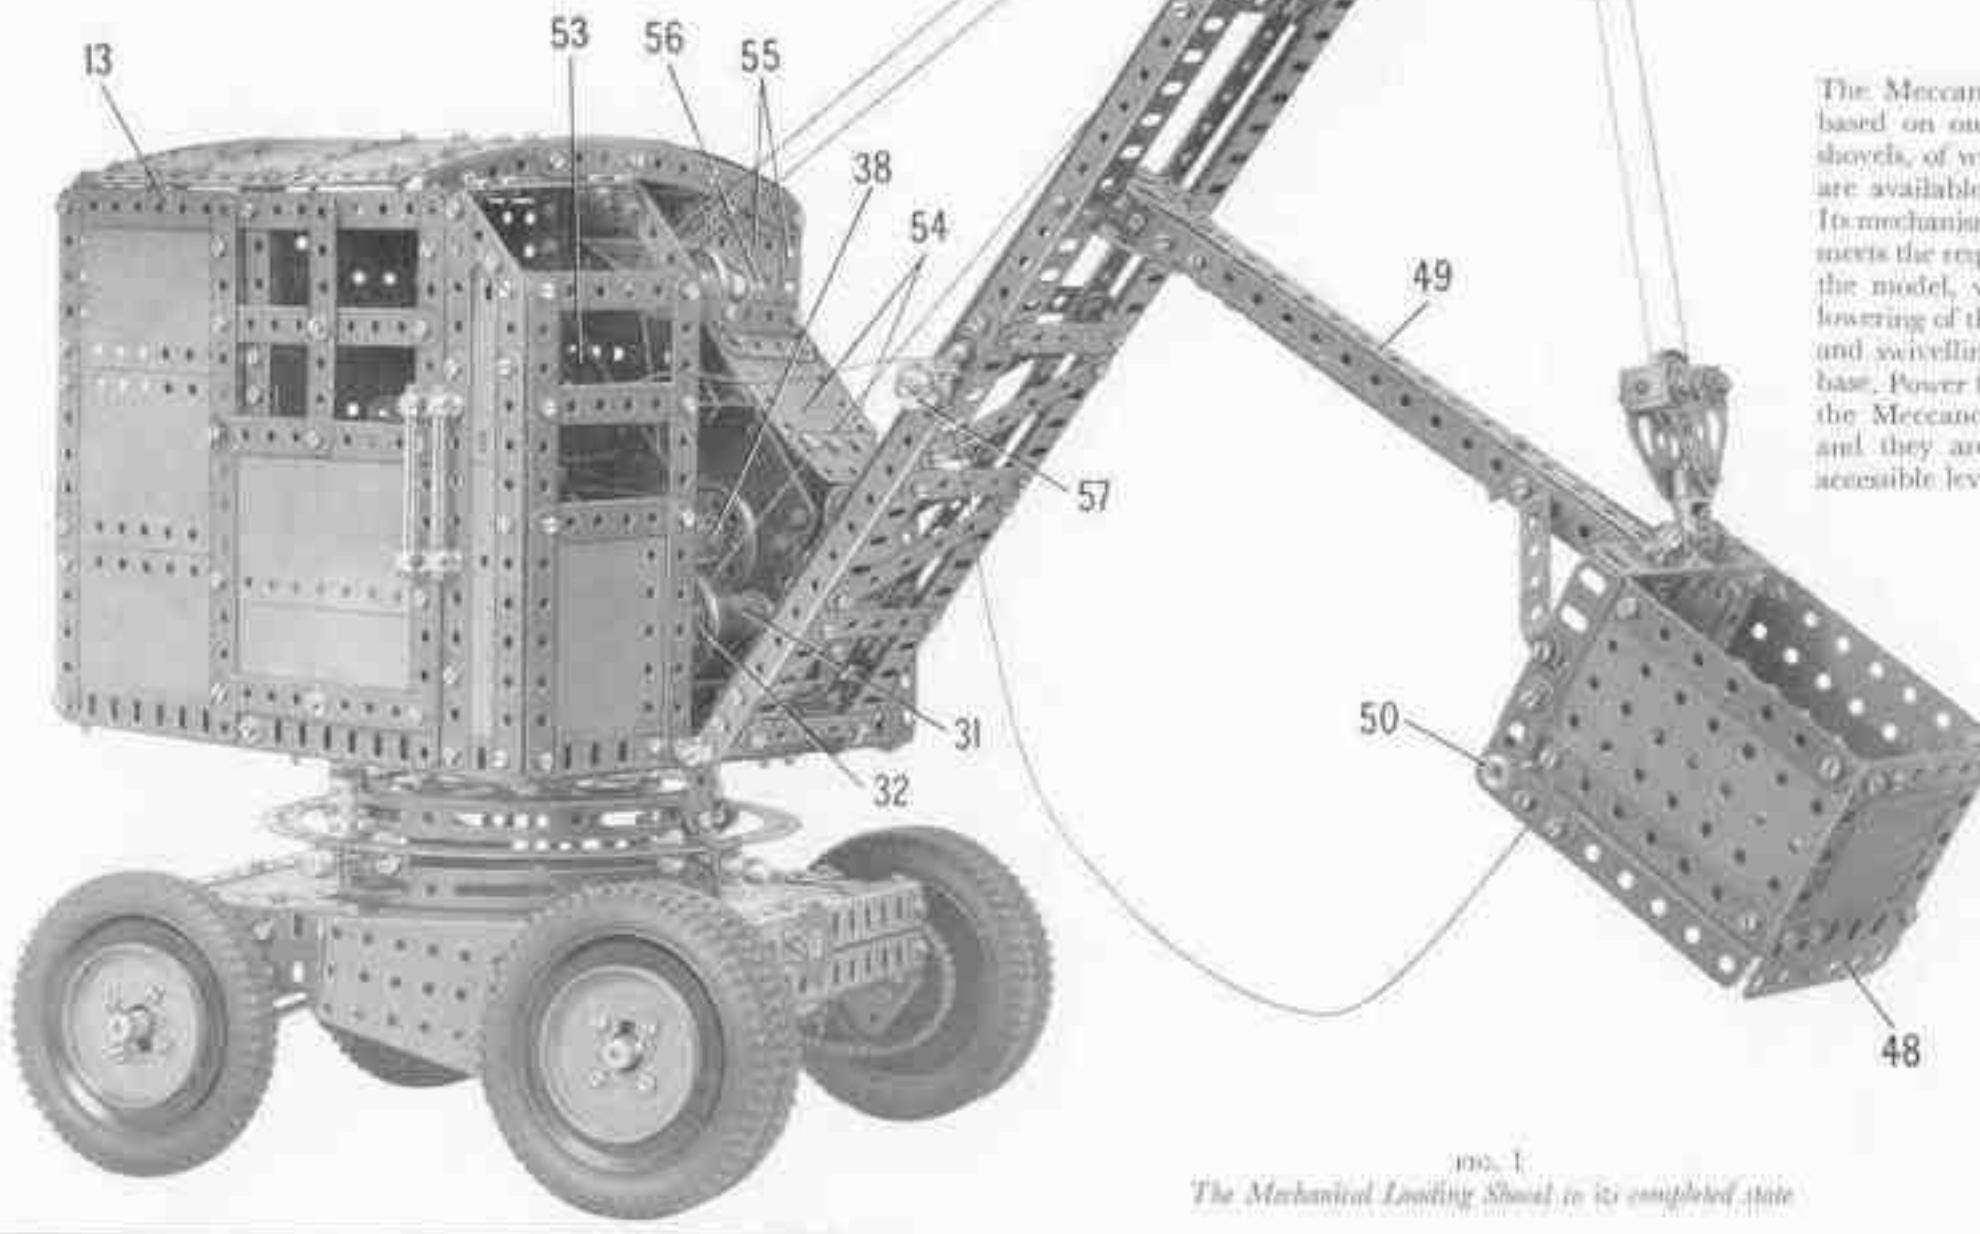

FIG. 1
#### The Cab: Floor and Sides (Figs. 1, 3 and 8)
The rear part of the side seen in Fig. 1 is filled in by three  $4\frac{1}{2}$ "  $\times 2\frac{1}{2}$ " Flexible Plates attached to two vertical  $7\frac{1}{2}$ " Strips by  $\frac{1}{2}$ " Bolts, but they are spaced from the Strips by a nut on each Bolt. The top edge of the upper Plate is strengthened by a strip (13), made from two  $9\frac{1}{2}$ " Strips overlapped five holes. The front part of this side consists of a  $5\frac{1}{2}$ "  $\times 1\frac{1}{2}$ " and a  $2\frac{1}{2}$ "  $\times 1\frac{1}{2}$ " Flexible Plate overlapped three holes and edged by Strips as shown.
#### The Bucket Arm and the Slewing Motion Drives (Figs. 1, 5 and 11)
The shaft that carries the bucket arm hoisting drum is a 5" Rod (30) (Fig. 11), mounted in the Flanged Plates (20) and (21). The drum (seen at 31 Fig. 1) is a Sleeve Piece pressed inside the teeth of a  $\frac{1}{2}$ " Contrace and fixed on the Rod between this Contrace and a 1 $\frac{1}{2}$ " Pulley (32). A length of Cord tied to the 7 $\frac{1}{2}$ " Angle Girder at the front of the cab is passed round the Pulley (32) and is fastened to a Driving Band. The Driving Band is stretched slightly and is placed over a 3 $\frac{1}{2}$ " Rod passed through holes in the lower edges of the Flanged Plate (21) and one of the Flanged Plates (20). This arrangement provides a constant braking effect on the winding drum shaft (30).
#### Drives to the Luffing and Travelling Movements (Figs. 1, 2, 4, 5, 6, 7 and 11)
The luffing drum, which is seen at (38) (Fig. 1), consists of a Sheave Piece fitted with a Chimney Adaptor at one end and connected at its other end to a 1 $\frac{1}{2}$ " Pulley by an Angle Bracket. The Pulley is fixed on a 5" Rod (39) (Fig. 11), and is provided with a Cord brake in the same way as the Pulley (32) (Fig. 1). Rod (39) carries a 50-tooth Gear that can be meshed with the Pinions on shafts (27) and (28), as already described in connection with the drive to Rod (30). The movement of Rod (39) is controlled by a lever (40) (Fig. 11), which is a 1" Rod in a Rod and Strip Connector that is bolted tightly to a 1 $\frac{1}{2}$ " Strip. The bolt head engages between two Collars on Rod (39), and the Strip is lock-nutted to an Angle Bracket bolted to the Flanged Plate (21).
#### Details of the Jib (Figs. 1 and 8)
Two 18 $\frac{1}{2}$ " Angle Girders are connected together by 21" Strips as shown (Fig. 1), and are braced by diagonal 3" Strips. Two 12 $\frac{1}{2}$ " Strips on each side are overlapped 13 holes, and are then attached to the Girder by Angle Brackets. The 12 $\frac{1}{2}$ " Strips are linked and braced by 2 $\frac{1}{2}$ " and 3" Strips in the same way as the Angle Girders. The lower end of each Angle Girder is extended one hole by a 1 $\frac{1}{2}$ " Strip. These Strips are mounted on a 3 $\frac{1}{2}$ " Rod supported in a 22" x 1" Double Angle Strip bolted to the front of the cab. A 3 $\frac{1}{2}$ " Rod is mounted at the top of the jib, and on it are placed two 1" Pulleys (46).
### The Bucket and its Supporting Arm (Figs. 1 and 8)
The sides of the bucket are  $3\frac{1}{2}'' \times 24''$  Flanged Plates, connected at each end by two  $2\frac{1}{2}'' \times 2\frac{1}{2}''$  Flexible Plates overlapped four holes. The inner end Plates are strengthened along their lower edges by a  $3''$  Strip, and the outer Flap Gimlets [48] (Fig. 1). The inner end of the bucket is edged by two  $2\frac{1}{2}''$  Am-
A pivoted pulley block is fitted to the bucket as shown in Fig. 1. It is formed by two Flat Trunnions connected by Double Brackets, with a 1" loose Pulley (52) (Fig. 8) freely mounted on a Pivot Bolt. Bolts passed through the holes at the pointed ends of the Flat Trunnions are screwed into the base of a small Fork Piece. The Fork Piece pivots on a 1" Screwed Bolt, which is fixed by nuts in Angle Brackets bolted to the 3" Angle Girders.
#### The Cab: Front, Roof and Back (Figs. 1, 8 and 11)
The front of the control cabin is made from a  $3\frac{1}{2}'' \times 2\frac{1}{2}''$  Flexible Plate and Strips as shown in Fig. 1. The side window is formed by a  $3\frac{1}{2}''$  Strip at the front, connected to the upper end of one of the Strips (24) (Fig. 11) by two  $2''$  Strips. A  $4\frac{1}{2}''$  Strip (53) is bolted diagonally across the window and is connected to the  $3\frac{1}{2}''$  Strip by a  $2''$  Strip, placed horizontally. A  $2\frac{1}{2}'' \times 1''$  Double Angle Strip is bolted between the Strip (53) and between a similar Strip on the opposite side. The roof over the cabin is made from two  $2\frac{1}{2}'' \times 1\frac{1}{2}''$  Flexible Plates supported by Angle Brackets.
The lower part of the front opposite to the control cabin consists of two vertical  $3\frac{1}{2}$ " Strips connected at their upper ends by a 2" Strip, and joined to the side of the cab by an Angle Bracket. A  $2\frac{1}{2} \times 1\frac{1}{2}$ " Flexible Plate is fixed to one of the  $3\frac{1}{2}$ " Strips. Two  $2\frac{1}{2} \times 1\frac{1}{2}$ " Flexible Plates (56) (Fig. 1) are connected by a 2" Flat Girder and a 2" Strip, and this assembly is attached to the lower part of the front by an Obtuse Angle Bracket. Two further  $2\frac{1}{2} \times 1\frac{1}{2}$ " Flexible Plates (55) are connected to the side of the cab and to one of the Strips (24) (Fig. 11) by Angle Brackets, and are joined to the Plates (54) by two Obtuse Angle Brackets. The front is completed by two  $5\frac{1}{2}$ " Curved Strips overlapped seven holes.
#### Arrangement of the Cords (Figs. 1 and 8)
The Jolting Cord is tied to the drum (38) (Fig. 1), is passed over a 1" Pulley on a Rod (56) and round the 1" loose Pulley (47) (Fig. 8). It passes over a second 1" Pulley on Rod (56) (Fig. 1) and is tied to the  $2\frac{1}{2} \times 1\frac{1}{2}$ " Double Angle Strip that is bolted to the Strip (53). The
The Cord for controlling the bucket is fastened to the drum (31), is taken over one of the Pulleys (46) (Fig. 1), round Pulley (32) of the bucket, and is passed over the second Pulley (46). The Cord is tied finally to one of the bearing Strips of the jib.
A length of Cord tied to the End Bearing of the bucket discharge catch is taken over a 1" loose Pulley (57) (Fig. 1) and is fastened inside the cab. Pulley (57) is free to turn on a 1" Bolt, which is fixed by a nut in a Threaded Crank bolted to the jib. The Cord is retained in the groove of the Pulley by a Fishplate bolted to an Angle Bracket, which is fixed to the jib.
The sliding door of the cab is made by bolting two  $4\frac{1}{2} \times 2\frac{1}{2}$ " Flexible Plates between two  $7\frac{1}{2}$ " Strips (58) (Fig. 10). The window frame is made from Strips as shown. A 2 $\frac{1}{2}$ " Strip is attached to each end of each Strip (58) by two 1" Bolts, but is spaced from the Strip (58) by a nut and a Washer on each Bolt. The lower ends of the Strips (58) and their 2 $\frac{1}{2}$ " Strips fit over the Angle Girder that edges the floor of the cab, and the upper ends of the Strips slide freely over the strip (13) (Fig. 1).